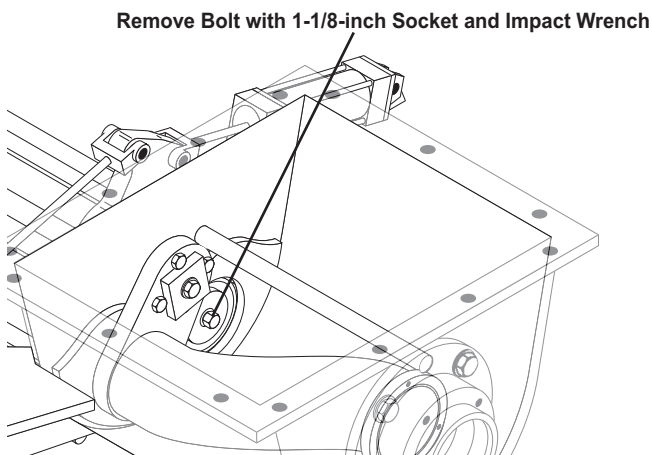

Figure 13
7. Place a 1 1/8-inch socket on an impact wrench, and remove the center mount bolt (Figure 13).